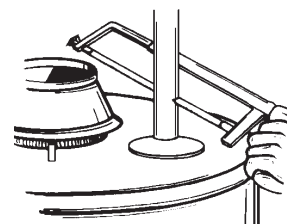

FIGURE 6.
- ⑤ Disconnect the vent pipe from the draft hood where it connects to the water heater. In most installations the vent pipe can be lifted off after any screw or other attached devices are removed. Dispose of the draft hood. The new water heater has a draft hood which must be used for proper operation.
- ⑥ If you have copper piping to the water heater, the two copper water pipes can be cut with a hacksaw approximately four inches away from where they connect to the water heater, see Figure 6. This will avoid cutting off pipes too short. Additional cuts can be made later if necessary. Disconnect the temperature-pressure relief valve drain line. When the water heater is drained, disconnect the hose from the drain valve. Close the drain valve. The water heater is now completely disconnected and ready to be removed.
- ① Turn "OFF" the gas supply to the water heater.